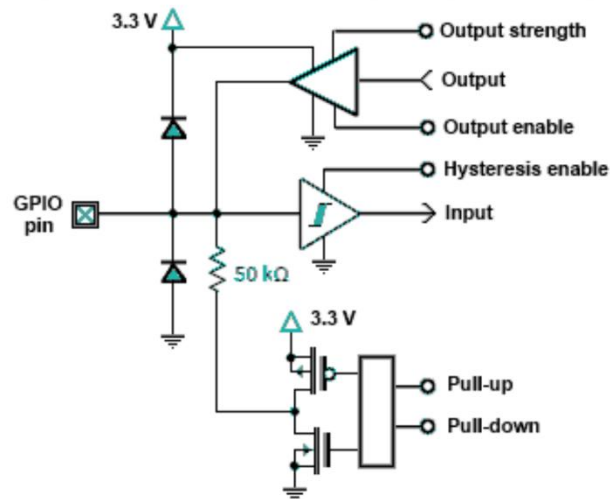

Figure 1
- Review the circuit diagram of figure 1 and not the two diodes attached to the input. What voltage level on the input will forward bias D1 (the top diode)? What voltage level on the input will forward bias D2 (the bottom diode)? Why are these diodes called clipper diodes?